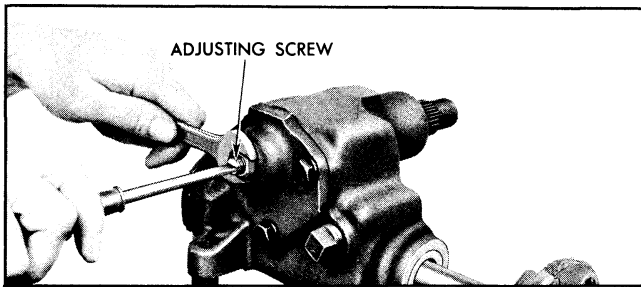

Fig. 9-4 Adjusting Pitman and Ball Nut Backlash
2. Loosen pitman shaft adjusting screw lock nut and back off adjusting screw a few turns (Fig. 9-4).